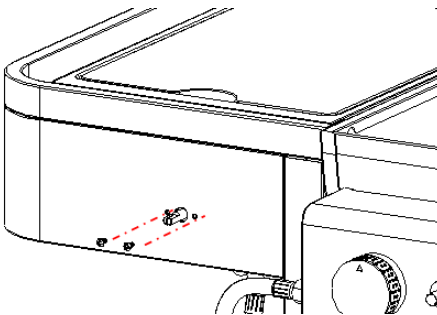

Fig. 15E
Attach the Side Burner Valve to the Side Burner Control Panel using (2) M4x8 bolts as shown as Fig. 15E.